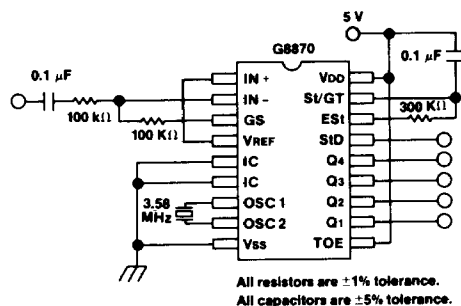

Figure 1. Single Ended Input Configuration
14. Referenced to Figure 1. Input DTMF tone level at -28 dBm.
The value of TDP is a parameter of the device and TREC is the minimum signal duration to be recognized by the receiver. A value for C of 0.1 μ F is recommended for most applications, leaving R to be selected by the designer. For example, a suitable value of R for a TREC of 40 milliseconds would be 300K. A typical circuit using this steering configuration is shown in Figure 1. The timing requirements for most telecommunication applications are satisfied with this circuit. Different steering arrangements may be used to select independently the guard-times for tone-present (TGTP) and tone-absent (TGTA). This may be necessary to meet system specifications which place both accept and reject limits on both tone duration and interdigit pause.
In a single-ended configuration, the input pins are connected as shown in Figure 1 with the op-amp connected for unity gain and VREF biasing the input at $\frac{1}{2}V_{DD}$. Figure 6 shows the differential configuration, which permits the adjustment of gain with the feedback resistor Rs.